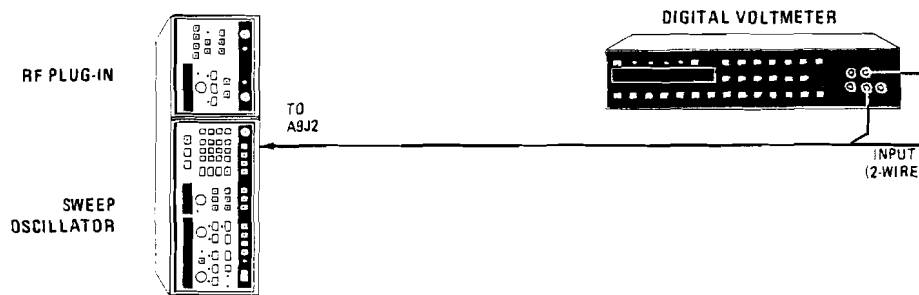

Figure 5-1. +20V, -40V, and -10V Power Supply Adjustments Setup.
3. Position the sweep oscillator on its side as shown in Figure 5-1 and remove the top and bottom covers.